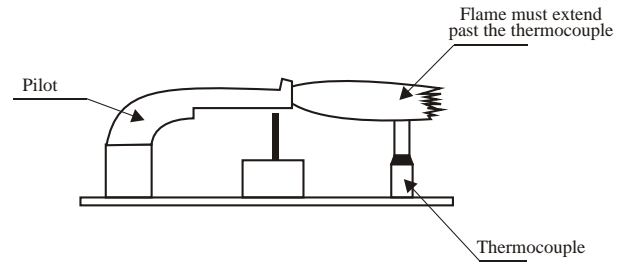

Figure 11
12. While the main burner is **ON**, check the pilot and burner flames to see that they are burning a clean blue color. See Figures 11 and 12 for an approximation of the correct flame pattern. If your unit is not burning cleanly, or if you are not sure, turn the unit **OFF** and contact the gas supplier or call Empire Comfort Systems Inc..